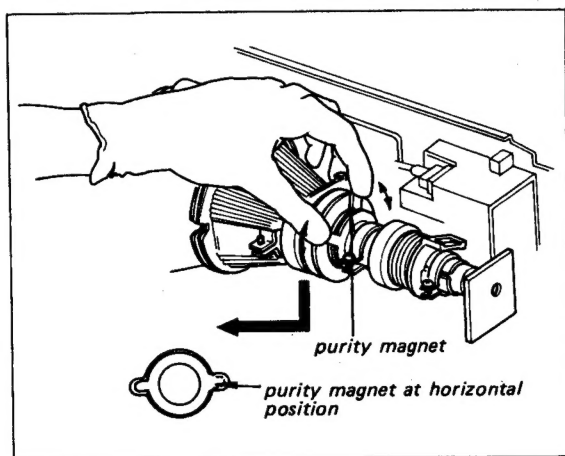

Fig. 3-1. Purity magnet adjustment
- (1) Spread the purity magnet as shown in Fig. 3-1.